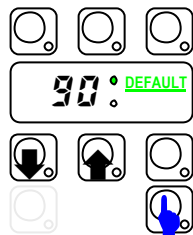

Fig. 3.3
- Use CYCLE_1 key to decrease the duration and CYCLE_2 key to increase (Fig.3.3);